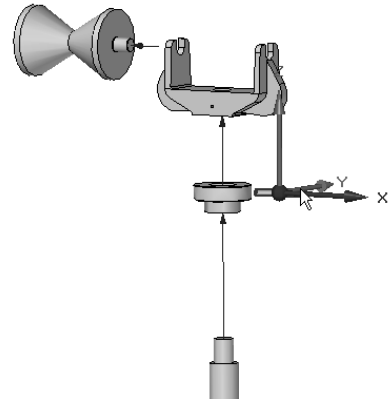

Figure 12-28 The selected part placed at the required position
3. Select the Z axis of the triad by clicking on it. Drag the component and place it, as shown in Figure 12-28.